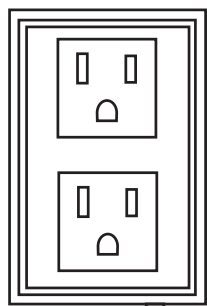

Fig. 1
5) Route the air hose to the controller in a convenient path where it will not be kinked, cut, or become disconnected. Attach the remaining end of the air hose to the fitting on the controller. See Fig. 1.